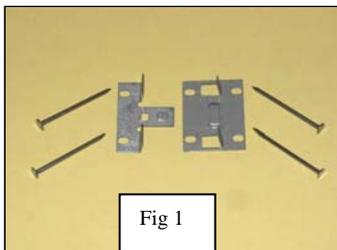
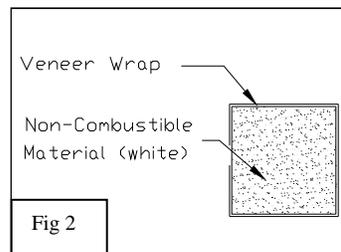

Fig 1
Fig 2
4. Secure the bead in one face of the lite opening using nails, supplied by the glazer, at least 1-3/16" in length and 18 gauge in diameter. Nails shall be located within 3" of the corners and no more than 6" between adjacent nails. (Fig 1). Pre-drill nail holes in the bead as required to prevent splitting.
6. Position two 1/8" x 1/4" x 3" setting blocks (supplied with the glazing) at quarter points on the bottom of the lite opening (Fig 1)
9. Secure the bead as described in step 4 above. (Fig 2).
1. These doors are supplied with the lite cutout pre-machined by Eggers Industries. The perimeter of the cutout is machined with recessed pockets for 2-part metal glazing clips. The glazing clips and their nails (Fig 1), together with the bead nails, will be sent loose as an accessory kit. The veneer-wrapped glazing bead (Fig 2) will be mitered supplied loose.